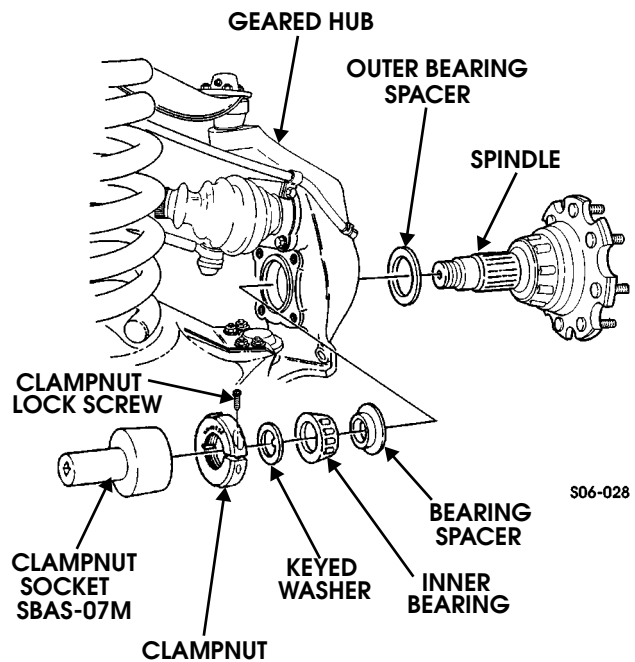

Figure 9-35: Clamp Nut Removal
4. Remove clampnut lock screw from clampnut (Figure 9-35).
1. Inspect spindle for rough or corroded sealing surface. Replace if damaged (Figure 9-35).
3. Install outer bearing spacer and spindle in geared hub (Figure 9-35).